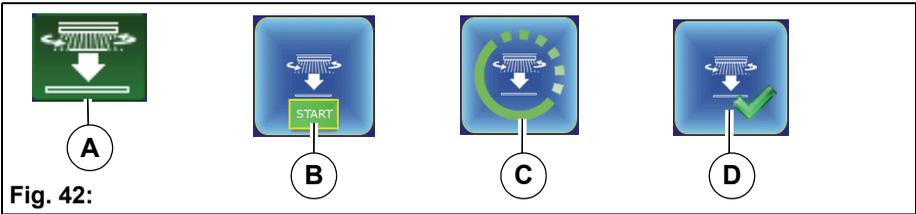

Fig. 42:
2. Select soft key *Eject brushes* **Fig. 42-A** using the turn-push knob and confirm. The action window **Fig. 42-B** opens. Use the turn-push knob to confirm the start.
The procedure starts and symbols **Fig. 42-C, D** appear on the multifunction display one after the other. Only now is the procedure complete.